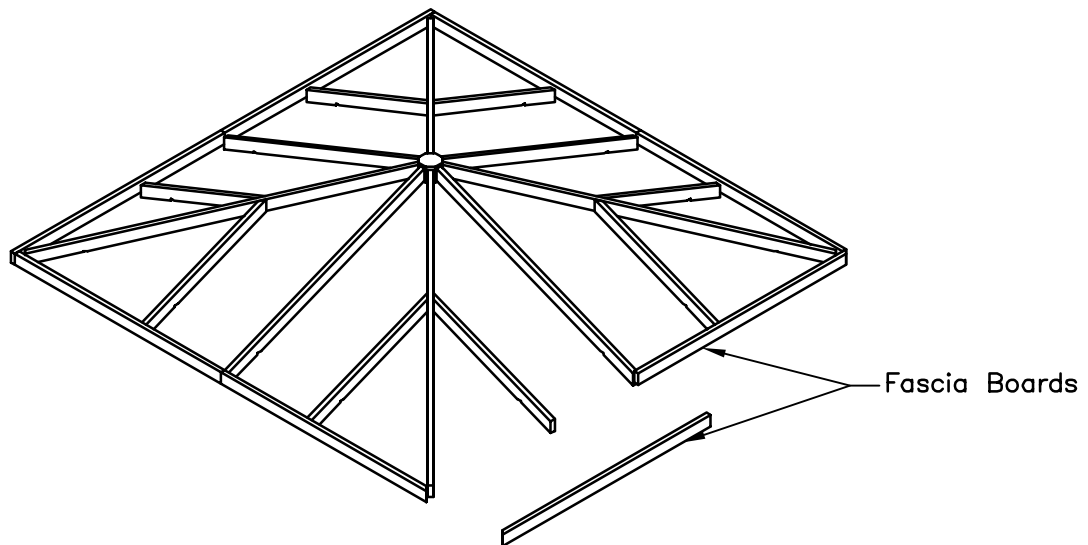

FIGURE S24
- The fascia comes in 8 pieces. See Figure S24 for details.